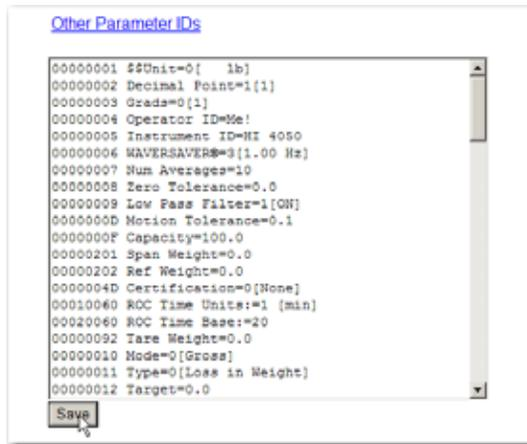

FIG. 301 PARAMETER DUMP/SAVING PARAMETER CHANGES
- Step 6. Click on the Save button to save the security changes. (See Fig. 301)